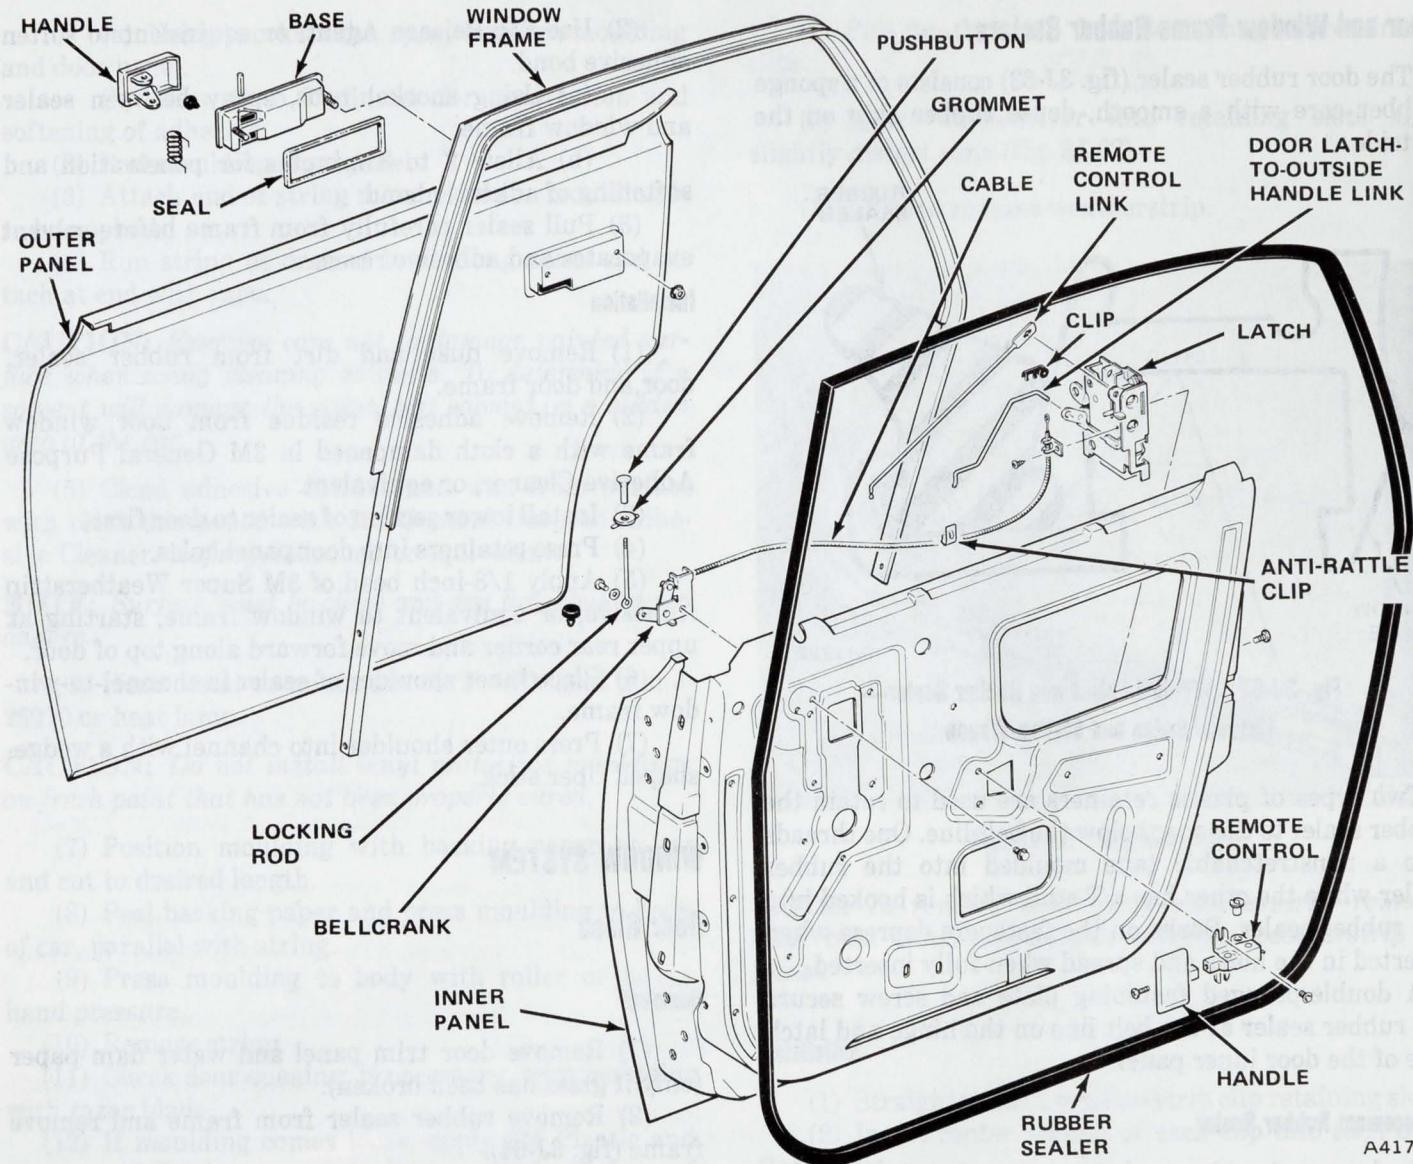

Fig. 3J-64 Door Components—Matador Sedan and Station Wagon
(1) Remove door trim panel and water dam paper.
(2) Loosen regulator slide channel screws (fig. 3J-65).
(3) Move channel screws up for forward tilt adjustment of glass and down for rearward tilt.